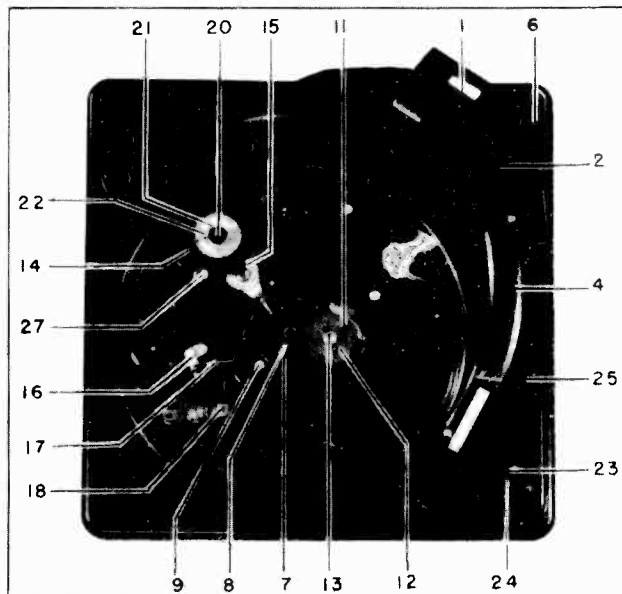

Fig. 1. Top View of Record Changer
3. Ball bearing assembly (8), see Fig. 1.
4. Idler wheel felt (21), see Fig. 1.
3. Teeth of large and small Idler Gears (11) (12), see Fig. 1.